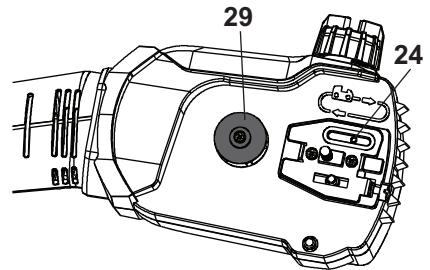

Fig. 44
1. Disassemble the guide bar (19) and saw chain (20) in reversed order from assembly.
2. Check the oiling port (24) for clogging and clean if necessary to ensure proper lubrication of the guide bar and saw chain during operation. Use a soft wire small enough to insert into the oil discharge hole (Fig. 44).